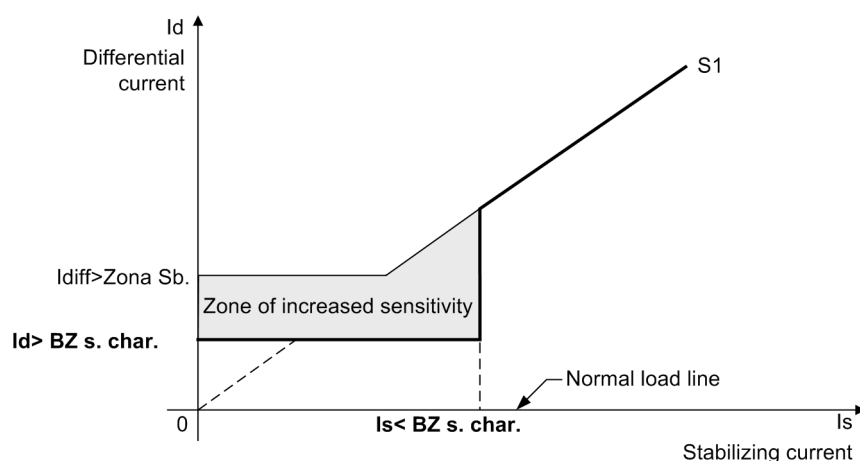

Figure 1-3 Sensitive characteristic
- Sensitive characteristic (Figure 1-3, page 27)